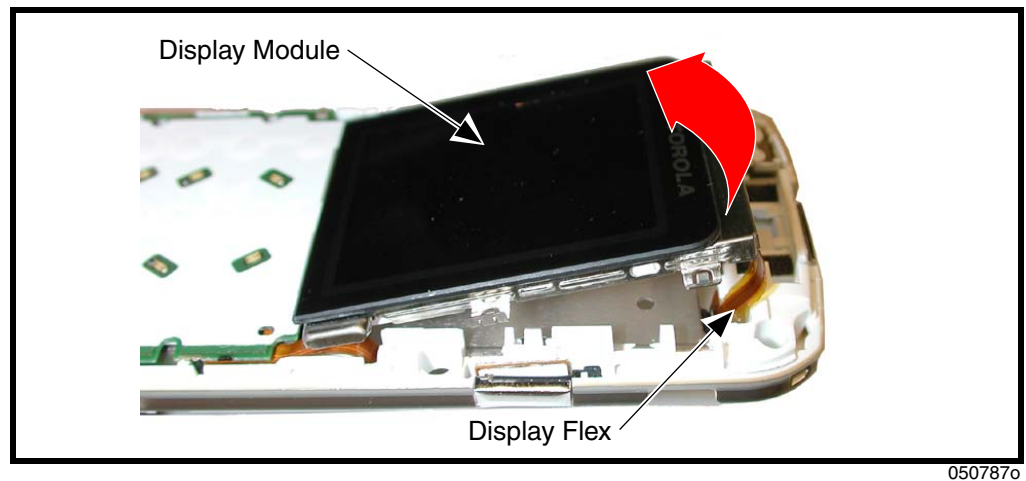

Figure 23. Removing the Display Module
3. Lift up the top edge of the display module (see Figure 23).